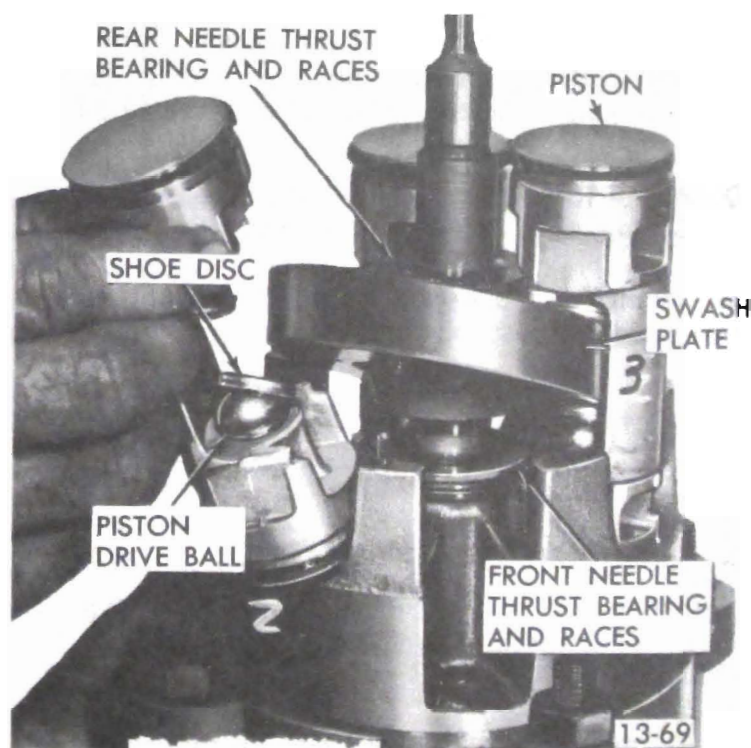

Figure 13-52 Disassembly of Cylinder Assembly
4. Carefully disassemble from cylinder assembly (see Figure 13-52) and lay in respective place on parts tray (J-9402) the following: number "1, 2 and 3" pistons, piston drive balls, and piston rings. To disassemble, rotate swash plate until piston is at highest point, raise swash plate approximately 1/2 inch and lift out piston and related parts one at a time. Discard shoe discs and rear needle thrust bearing and races.